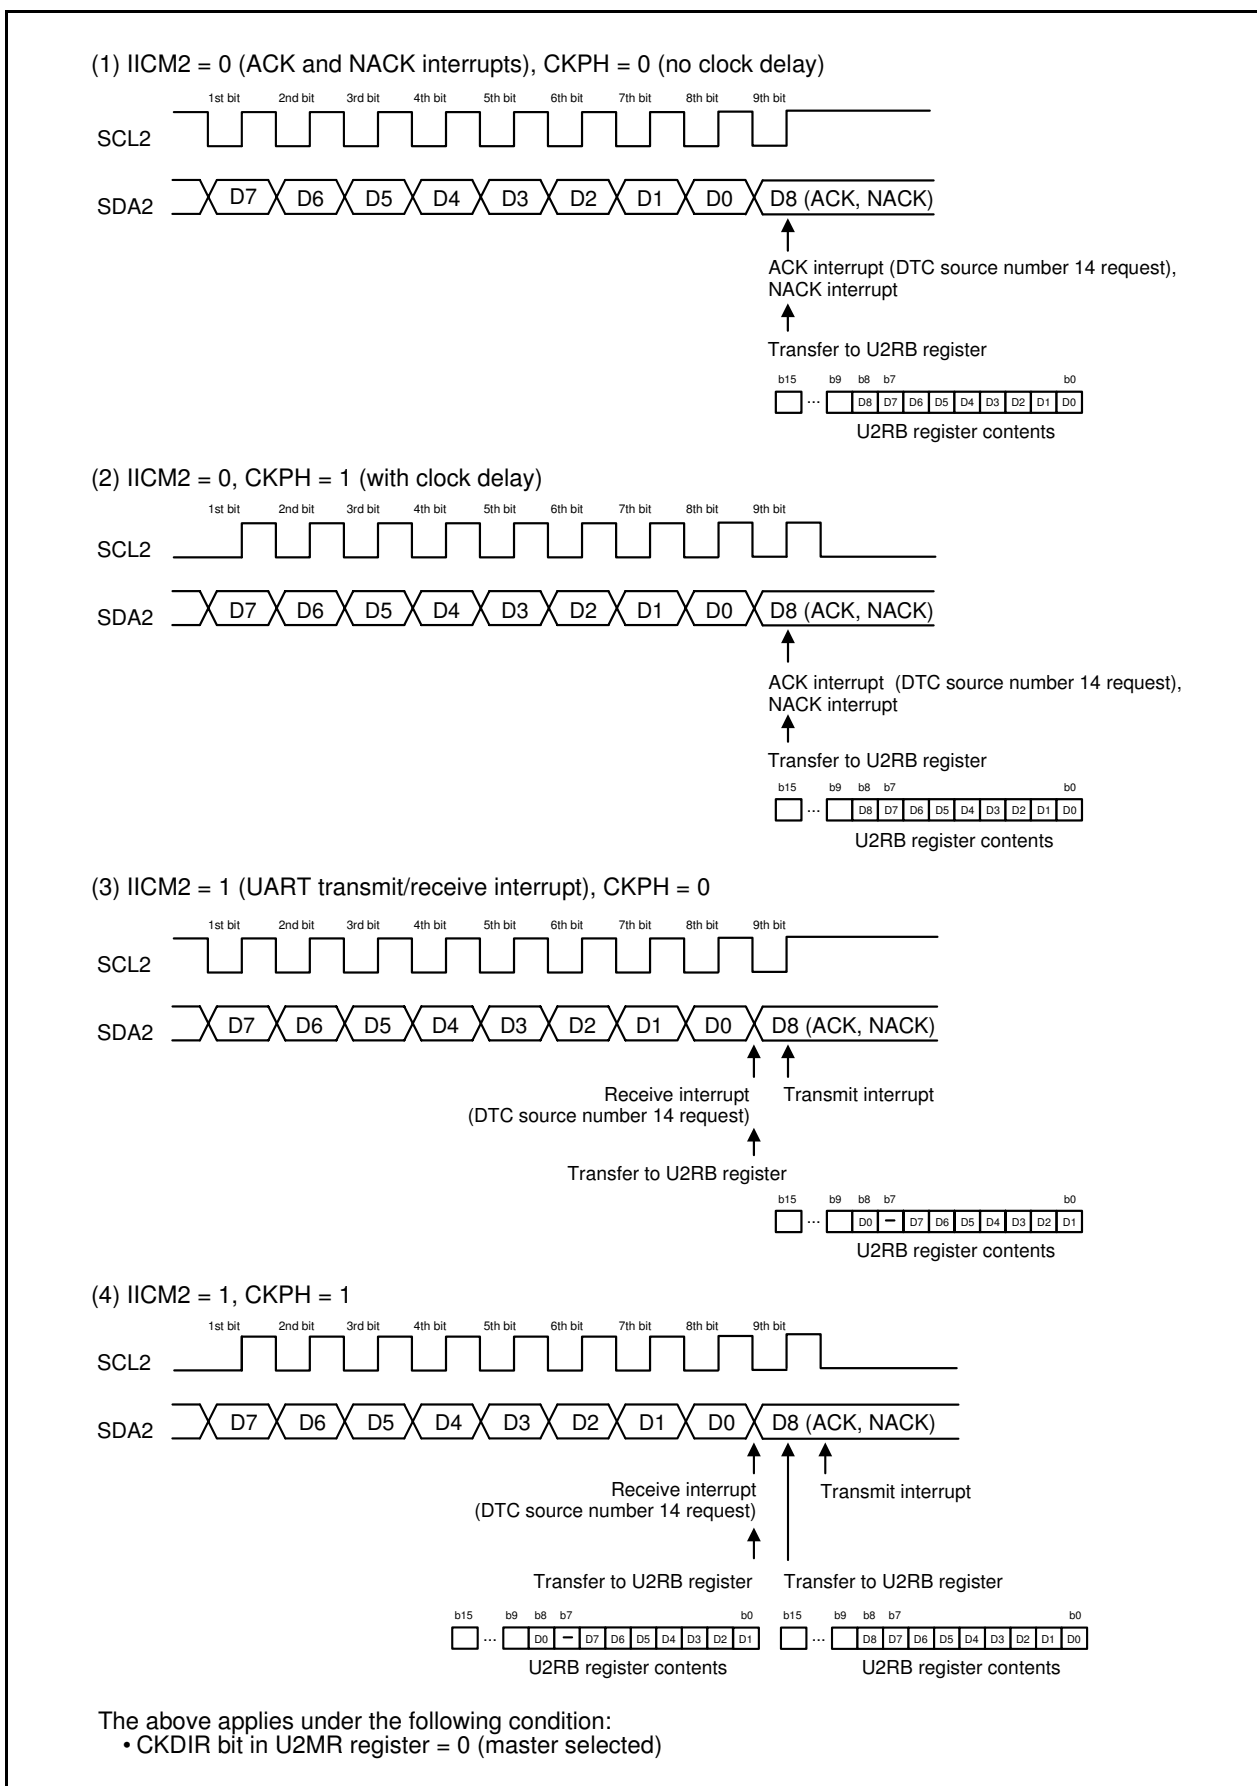

Figure 24.14 Transfer to U2RB Register and Interrupt Timing
I²C mode is provided for use as a simplified I²C interface compatible mode. Table 24.9 lists the I²C Mode Specifications. Tables 24.10 and 24.11 list the registers used in I²C mode and the settings. Table 24.12 lists the I²C Mode Functions, Figure 24.13 shows a Block Diagram of I²C Mode, and Figure 24.14 shows the Transfer to U2RB Register and Interrupt Timing.
6. Refer to **Figure 24.14 Transfer to U2RB Register and Interrupt Timing**.
The transfer clock is used to transmit and receive data as is shown in **Figure 24.14 Transfer to U2RB Register and Interrupt Timing**.